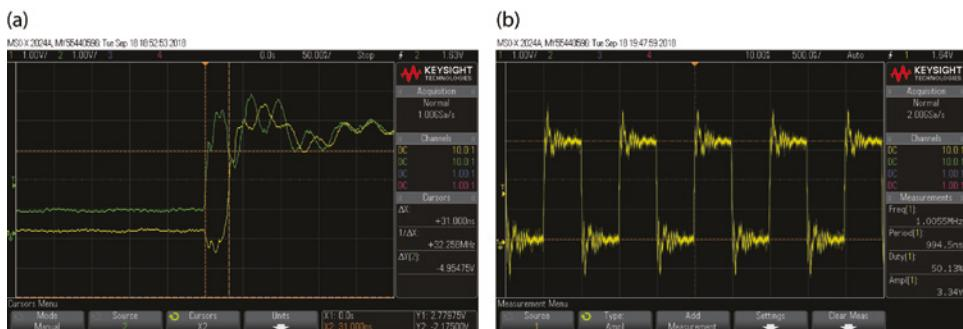

Figure 15-9: Measurements using a 20MHz scope: (a) button press assembly test, (b) LED test at a blink frequency of 1MHz
1. For the pure assembly program in Listing 15-7, the LED lights approximately 39 ns after the button is pressed (31ns when a high-resolution oscilloscope is used)—see Figure 15-8(b). To put this number in context, in this time a light pulse would have traveled approximately 9 meters through free space (at 3×10^8 m/s) and sound would have traveled 100th of a mm in air (340 m/s at sea level). The latter means that this time resolution, coupled with suitable acoustic sensor(s), makes accurate distance measurements feasible with the PRU-ICSS. Figure 15-9(a) confirms the measurement of the Analog Discovery using a higher bandwidth oscilloscope.
3. The LED test, as indicated in Figure 15-9(b), indicates that each PRU can be used to output user-configurable signals at very high frequencies (note that the PRU-ICSS also has dedicated clock outputs—e.g., a 192MHz UART clock).
When executed, the code will provide output similar to that shown in Figure 15-9(b).